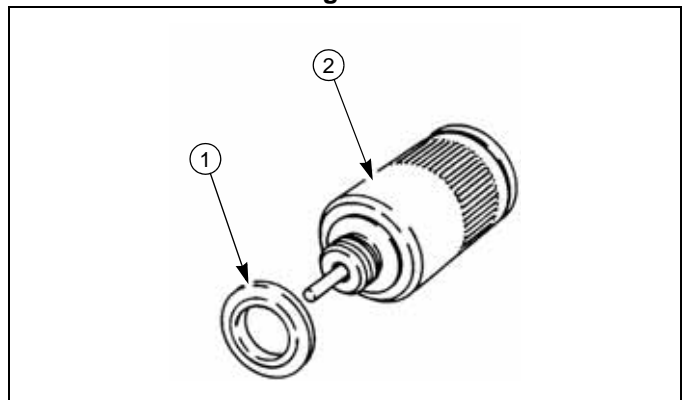

Fig. 5-2
4. Remove and discard the sealing washer, ① (page 5-1, Fig. 5-2), which seals the solenoid, ② (page 5-1, Fig. 5-2), to the fuel injection pump.
1. Assembly of the engine stop solenoid generally follows the disassembly in reverse, using a new sealing washer, ① (page 5-1, Fig. 5-2), on the solenoid, ② (page 5-1, Fig. 5-2).